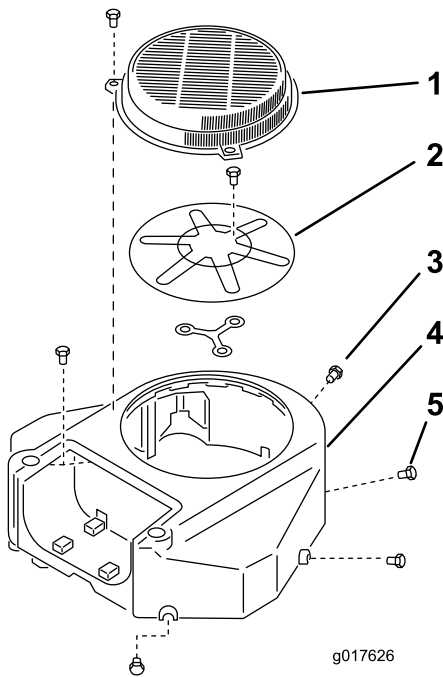

Figure 59
3. Remove the air-intake screen and the fan housing (Figure 59).
5. Install the air-intake screen and fan housing (Figure 59).